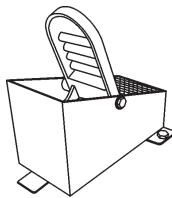

Figure 8. Blade Speed Control Foot Pedal
3. The right foot pedal (Figure 8) controls blade and engine speed. The position of the foot pedal determines the blade speed. Slow blade speed is obtained by slightly depressing the pedal. Maximum blade speed is obtained by fully depressing the pedal.